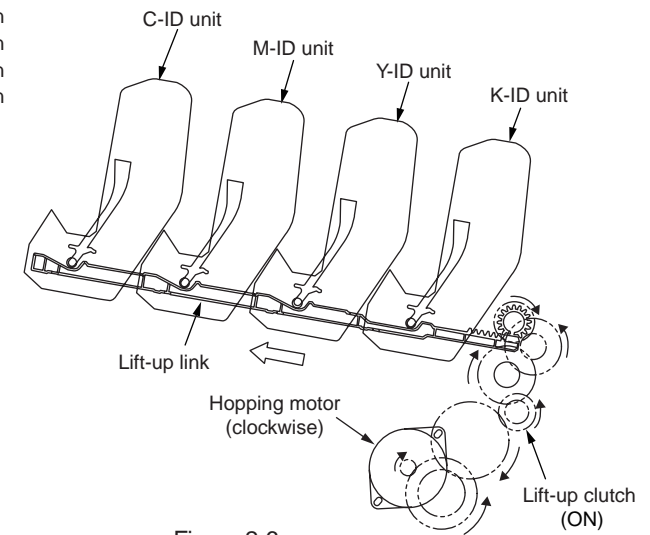

Figure 2-6
2. Figure 2-6 shows the motions of the different ID units when the printer is operated for color print. As the hopping motor rotates (clockwise) and the lift-up clutch is ON, the lift-up link slides to the left, causing the ID units to come down, as can be seen in Figure 2-6. Namely, the printer is readied for color print.